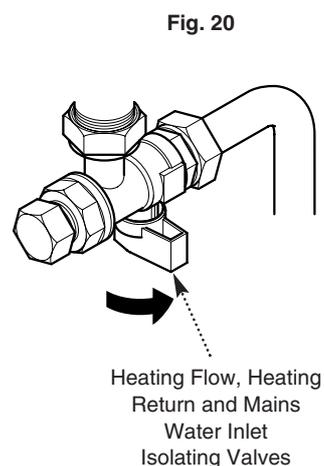

Fig. 20
3. The isolating valves are positioned under the boiler and can be closed by turning their taps to the right towards the wall (Fig. 20).